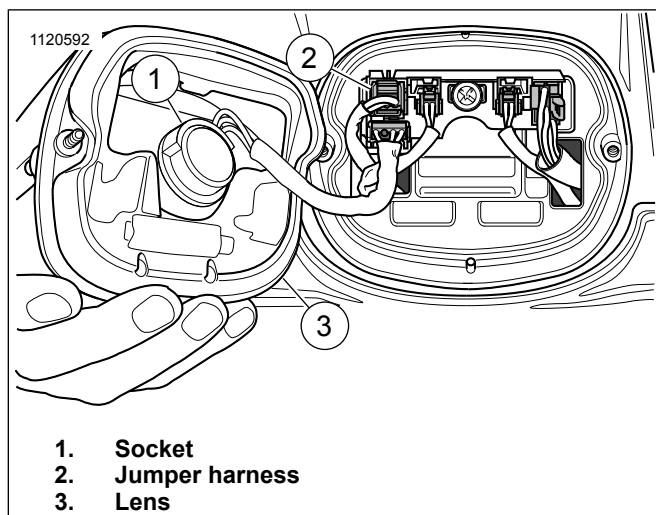

Figure 5. Jumper Harness Installed
11. See Figure 5. Connect jumper harness (2) into tail lamp.